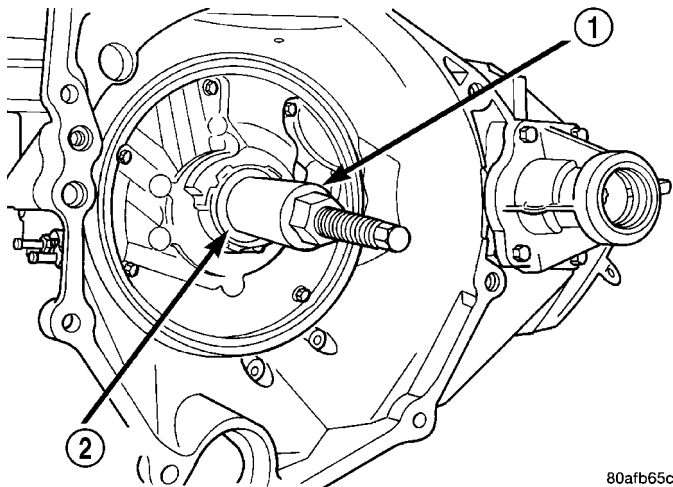

Fig. 289 Remove Oil Pump Seal
(1) Remove transaxle from vehicle (Refer to 21 - TRANSMISSION/TRANSAXLE/AUTOMATIC - 41TE - REMOVAL).
(2) Using Tool C-3981-B, remove oil pump seal (Fig. 289).